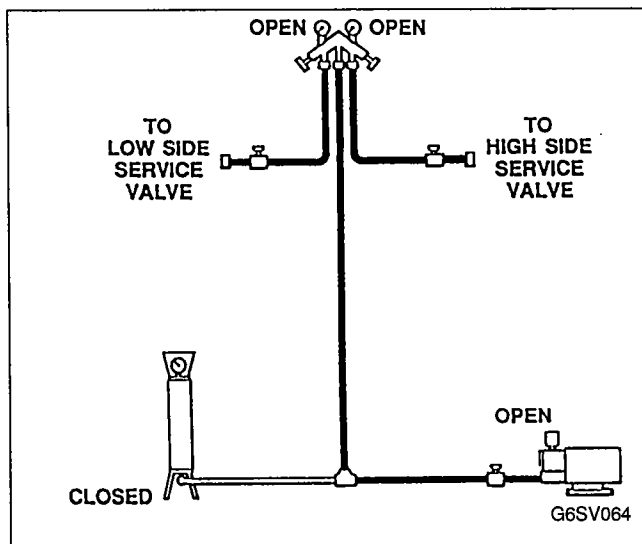

FIGURE 57. EVACUATION OF SELF-CONTAINED SYSTEMS
2. Fully open service valves, Figure 57.
Procedures for Self-Contained Evacuation (Figure 57)